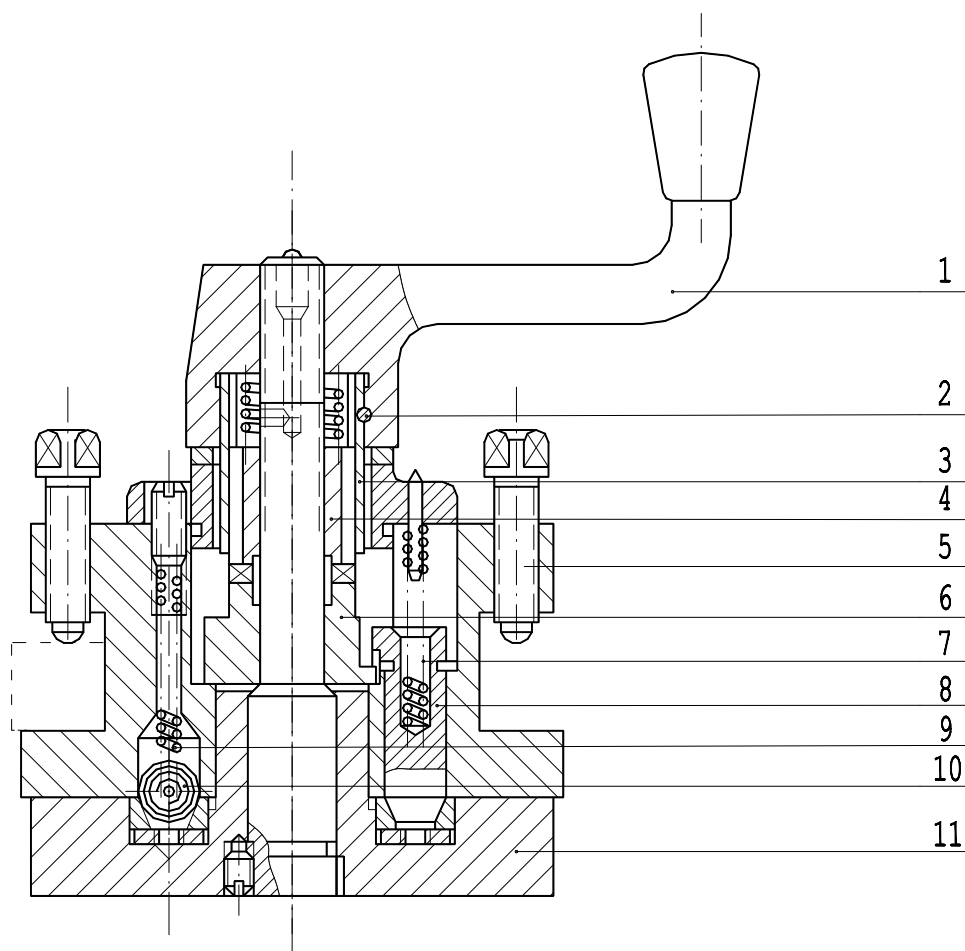

Fig. 15 Structure of square tool post
When counterclockwise turning lever 1 (Fig. 15), locating pin (7) is raised up through the pin (2) to actuate (3), (4), and (5) and continually turning the lever 1, tool post may be swiveled to the desired position, when clockwise turning the lever 1, steel ball (9) is first pushed into the taper hole of the tool post (10) by the force of spring (8), thus, the tool post is preliminarily positioned, at the same time, the part (5) comes to home to lay down the locating pin (7), the pin (7) is positioned by the force of spring (6), and continually the lever (1), the tool post is clamped by threads.
Unscrew the locking screws (5) of square tool post (Fig. 15), install the turning tools in the tool slots of the tool post and extension length of the tool end is about 37 mm from the body of tool post, in general case, the extension length from the tool holder is not more than 1~1.5 times of tool thickness. Then, adjust height of the tool tip by means of tool pad to make it keep equipments with the center of workpiece (spindle center line), also adjust it according to the center line of tailstock center), also adjust it according to the center line of tailstock center. After completion of adjusting tool tip height, screw up the screw (5).